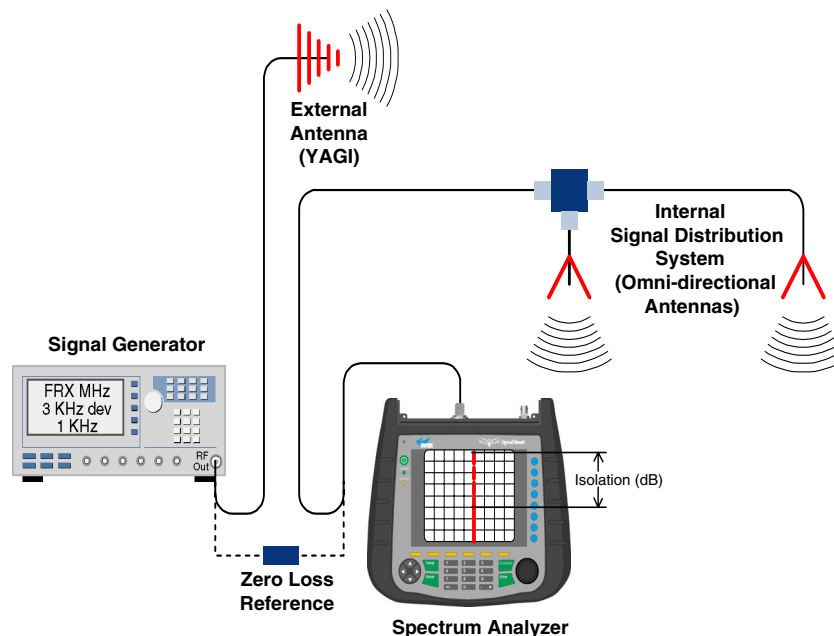

Figure 9: Typical test equipment interconnection for measuring antenna isolation.
- 3) Temporarily connect the test leads of the signal generator and spectrum analyzer together using a female barrel connector, see **Figure 9**. Observe the signal on the analyzer and adjust the input attenuator of the spectrum analyzer for a signal level that just reaches the 0 dBm level at the top of the graticule.
- 4) Referring to figure 9, connect the generator test lead to one side of the antenna system and the spectrum analyzer to the other then observe the signal level. The difference between this observed level and 0 dBm is the isolation between the sections. If the signal is too weak to observe, the spectrum analyzer's bandwidth may have to be narrowed and its input attenuation reduced. **The isolation value measured**